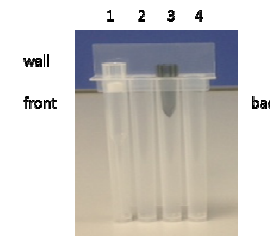

Figure 12: Tips disposition on Tip Cassette
Ensure that the Tip (1) and the piercer (3) are placed as shown in the picture below (Figure 12).